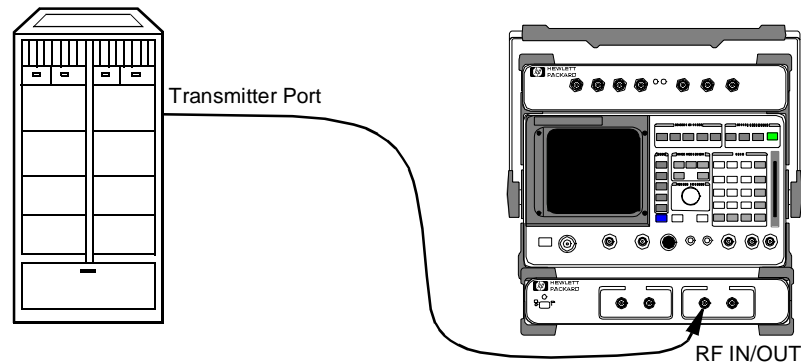

Figure 6
- 1 Connect the equipment as shown in figure 6.